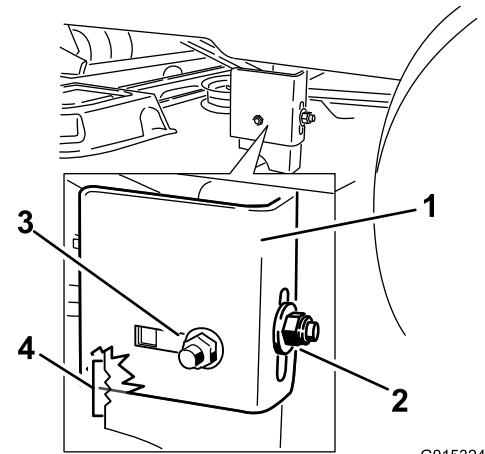

Figure 63
- 9. Loosen the rear locking nut on the hanger bracket (Figure 63).
- 10. Loosen the side locking nut on the hanger bracket just enough to allow the hanger to be adjusted (Figure 63).
13. Stop the deck at the adjusted position, and tighten the side locking nut on the hanger bracket to hold the new position (Figure 63).